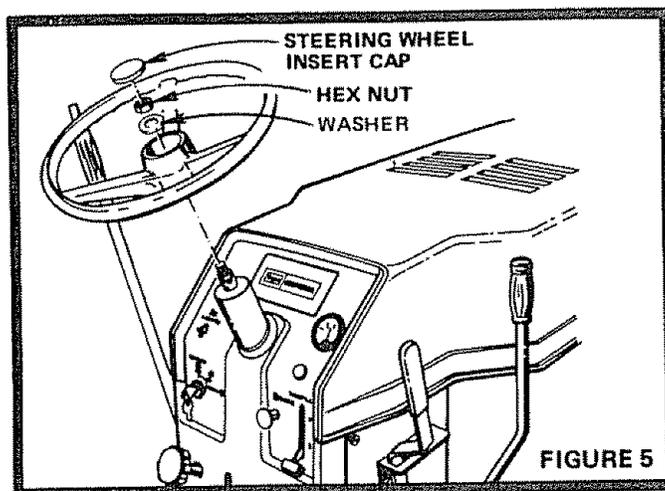

FIGURE 5
- a. Secure the Steering Wheel to Steering Shaft with Washer and Hex Jam Nut (Fig. 5). Tighten securely.